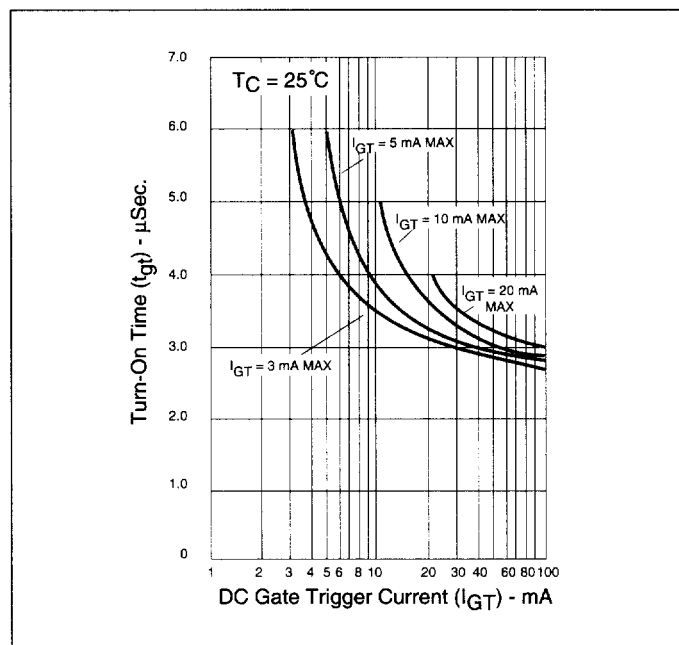

Figure 1.8 Turn-On Time vs Gate Trigger Current (Typical)
- (9) See Figure 1.8 for  $t_{gt}$  vs  $I_{GT}$ .